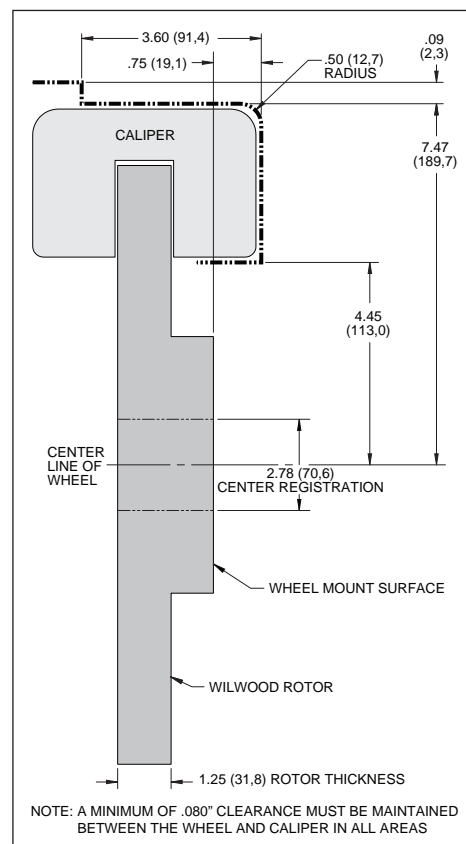

Figure 2. Wheel Clearance Diagram
- Review the wheel clearance diagram (Figure 2, page 3) to verify that there is adequate clearance with the wheels you will be using with the installation.
• Verify your wheel clearance using Figure 2.